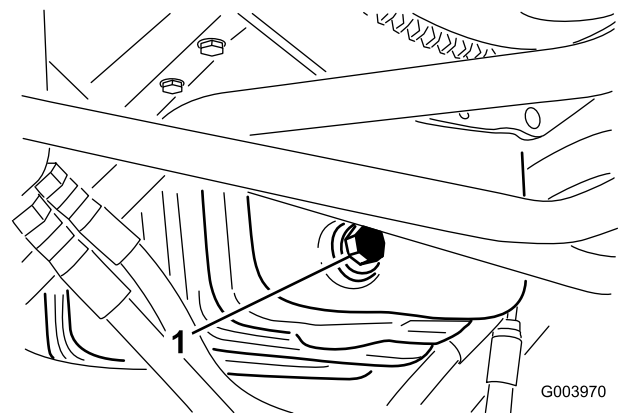

Figure 62
1. Remove the drain plug (Figure 62) and let the oil flow into a drain pan.